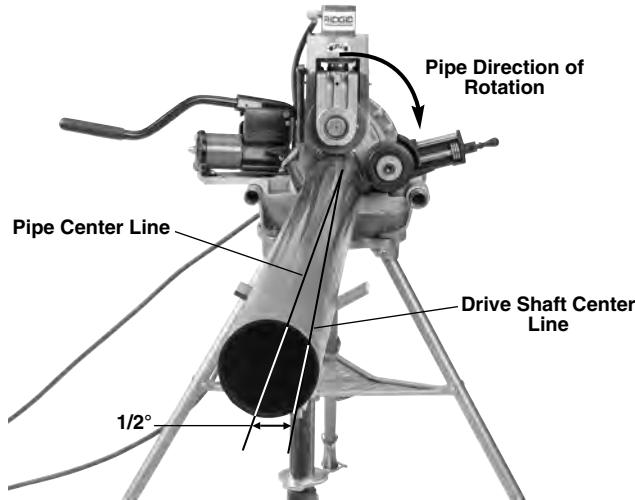

Figure 14 – Offsetting the Pipe 1/2° Toward Operator, (Exaggerated)
- Move the power drive/threading machine REV/OFF/FOR switch to the REV position. Press and release the foot switch. Drive roll should rotate clockwise (see *Figure 14*) matching the pipe rotation decal on the groover. If the groover does not rotate in the correct direction, or the foot switch does not control the machine operation, do not use the machine until it has been repaired.
Slightly offset the pipe and pipe stands approximately 1/2 degree (about 1" over at 10 feet from the roll groover) towards the operator. Proper alignment of the pipe and roll groover helps to ensure proper tracking of the pipe while grooving (see *Figure 14*). This is proper offset for grooving with the machine in the REV switch setting, and works with the stabilizer.
- Slightly increase the offset of the pipe (increase from $\frac{1}{2}$ degree to 1 degree) See *Figure 14*.